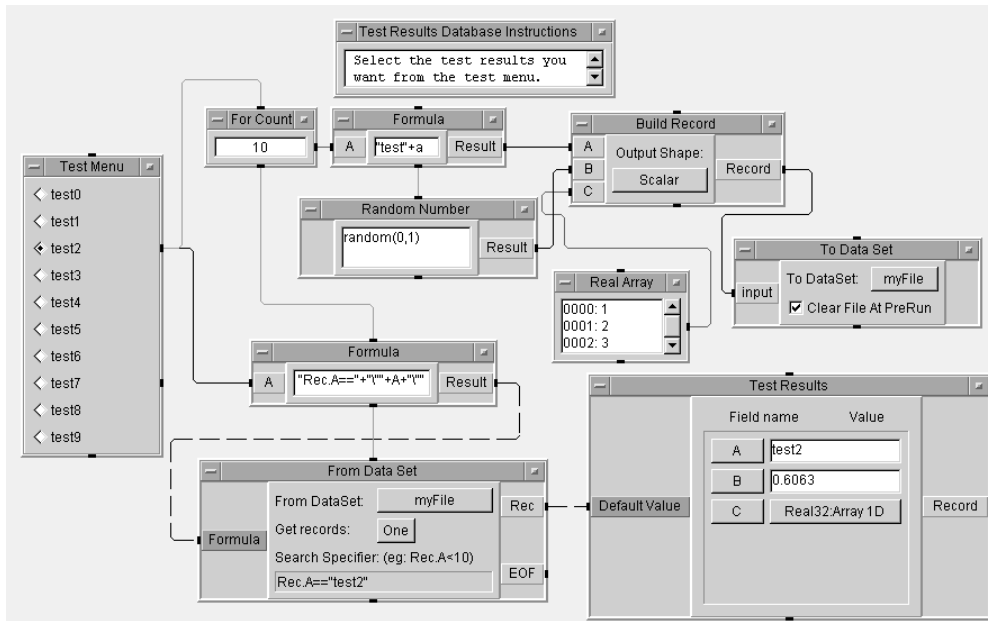

Figure 8.5. Adding a Test Menu to the Search Operations with Data Sets
24. Save, then run, this program by selecting a Test value from the Test Menu object. See Figure 8.5.